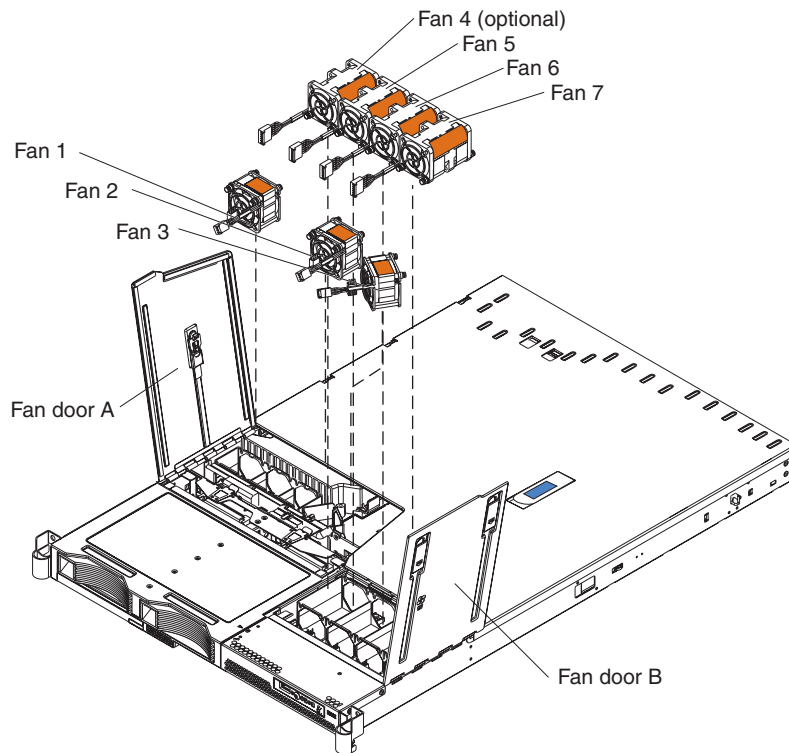

Figure 44. Hot-swap fan locations
- Figure 44 on page 58 shows the locations of the hot-swap fans.